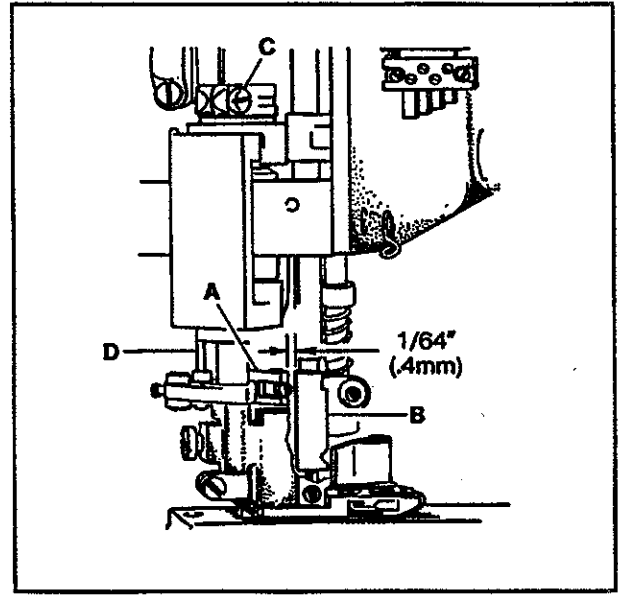

FIG. 20
Turn the handwheel in operating direction until link (A, Fig. 20) has traveled fully to the front. There must be a $1/64$ " (0.4mm) clearance between link (A) and the back of needle head (B) when link (A) starts to jackknife. Loosen screw (C) and rotate driving sleeve (D) to position link (A). Tighten screw (C).